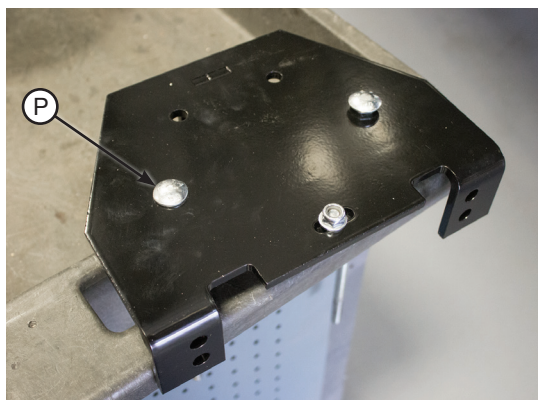

fig. D.8
3. Flip the assemblies over and set a roll plate onto the bottom of the air spring (Fig. D.8).